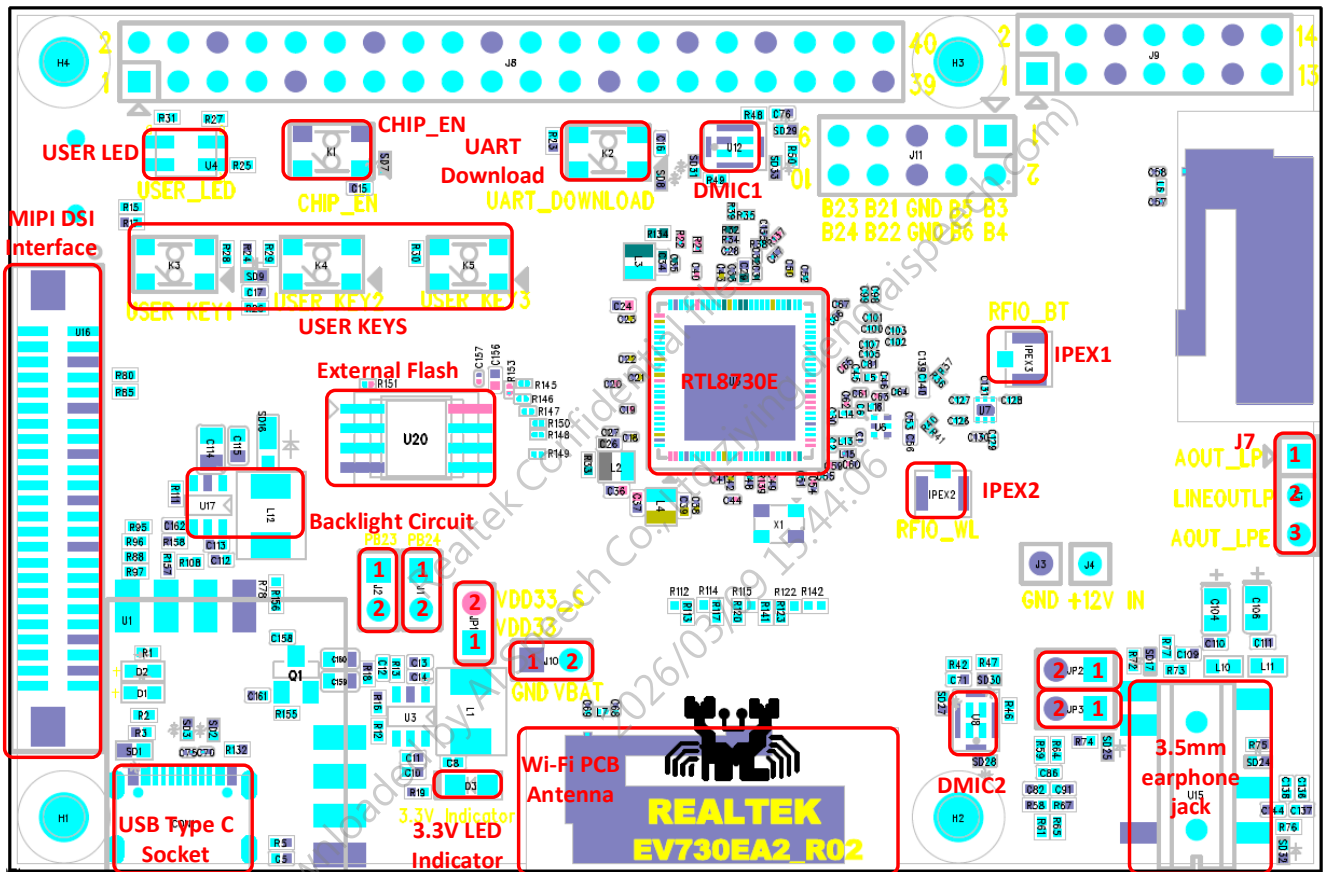
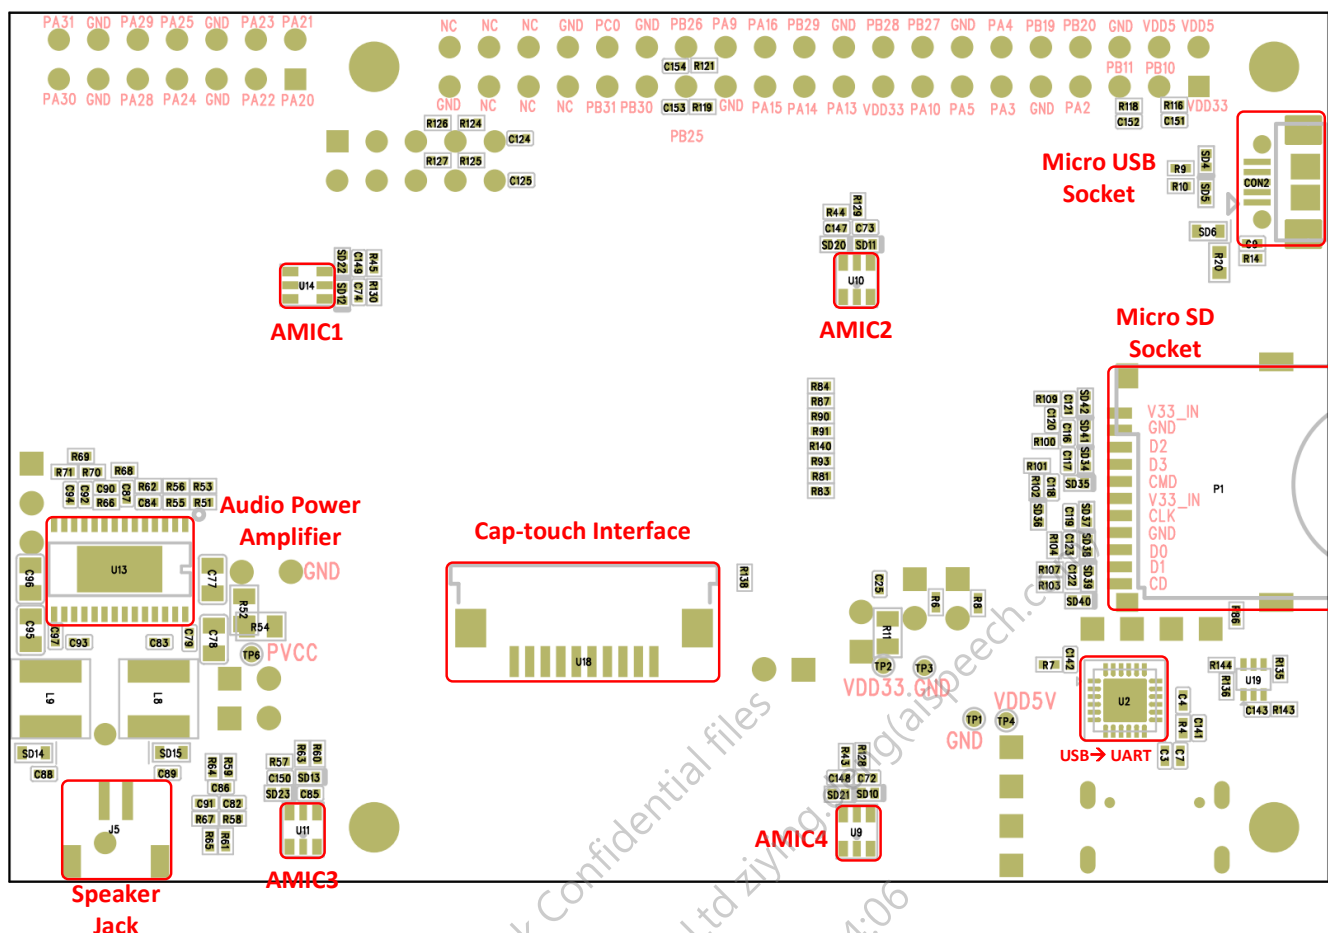

Figure 3-1 EV8730EA2 – top layer
Figure 3-2 EV8730EA2 – bottom layer
- Find the location of the pin according to Figure 3-1 and Table 3-1.
The top layer of the EVB is illustrated in Figure 3-1.
The bottom layer of the EVB is illustrated in Figure 3-2.
There are two kinds of MIC chips on the EVB, namely analog microphone and digital microphone. Refer to Figure 3-1 for the location on the EVB.
Multiple connectors are provided on the EVB for the expansion of different functions of the chip. The positions of different connectors on the EVB are shown in the Figure 3-1.
Only connectors with numbers and the names described next to them can be configured in the Figure 3-1 and Figure 3-2. Other connectors with no specific purpose are used for internal test or other reserved functions. Please do not configure them arbitrarily to avoid affecting the normal operation of the chip.
The pin multiplexing and description of each jumper is listed in Table 3-1. All designators and pins shown in the following table can be located in Figure 3-1.